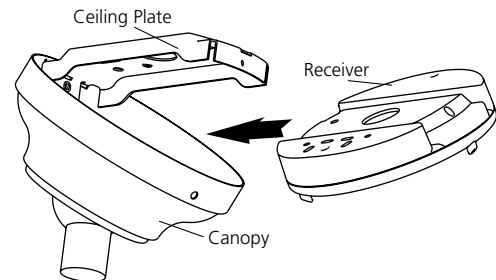

Figure 3 - Installing Receiver
5. Install receiver as shown in Figure 3. Line up slots on the receiver with the ceiling plate. Be sure to push wire connections from the ceiling back up through the hole in the ceiling plate. Wires attaching from the ceiling plate to the fan should be placed inside the canopy under the receiver. Once the receiver is installed, continue with the appropriate instructions from the fan installation manual to finish installing the fan.